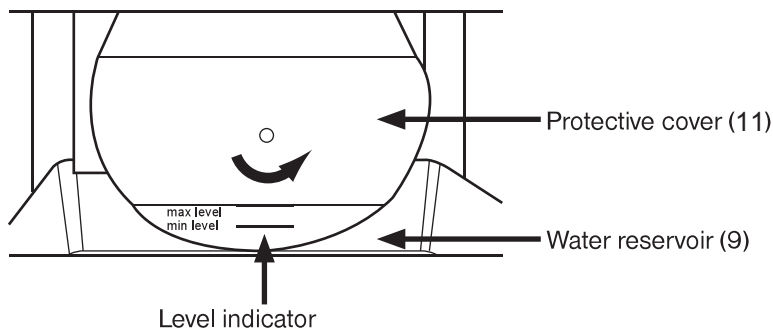

Fig. 11
(9) The water reservoir:
The tile cutter has a water reservoir (9), in order to cool the cutting disc, to obtain a good result and to avoid the development of rising dust. Dust is harmful to your health. The creation of dust is affected by the material to be cut, the cutting disc and the presence of covers or hoods. Dust is created at the place where the tile is cut. With the use of a water reservoir (9), dust is removed where it is created and trapped in the water. Working with the tool will be safer and more pleasant. Before starting up the tilecutter, the water reservoir (9) must be positioned on the right under the machine table (4) so that the protective cover (11) is in the water reservoir (9). (See Figure 11). Make sure that you fill the reservoir with water, before starting the work. Pay attention to the fill level indicator on the protective cover (11). (See Figure 11.). **CAUTION! When you are cutting, the water-filled reservoir must be inserted. Never do dry cuts.**